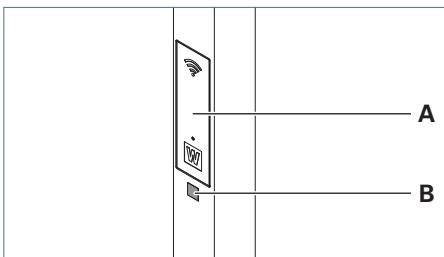

Fig. 30: Scanning QR code.
- ▶ Scan the QR code **B** of the luminaire which is located on the column underneath the service flap **A**, see Fig. 30.